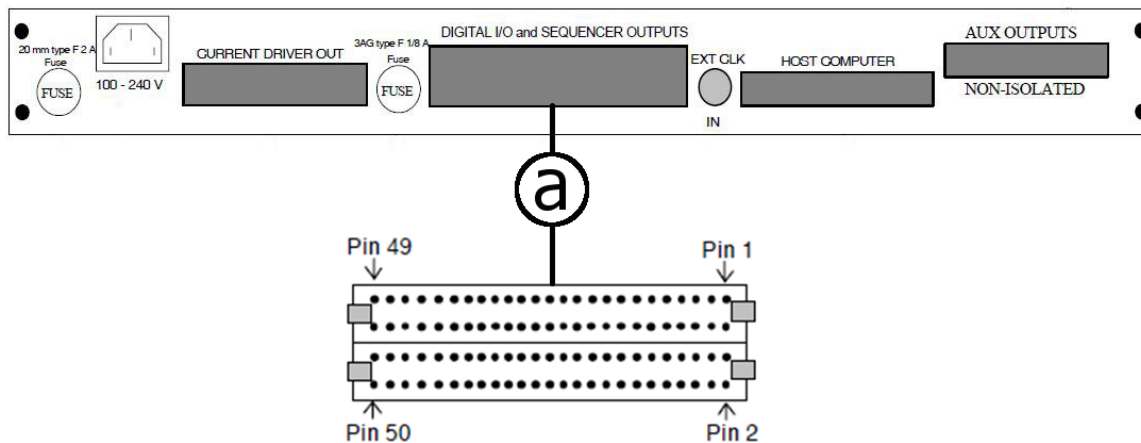

Fig. 18: Rear panel controls of the ITC-18 Data Acquisition Interface.
- Input: Digital I/O of the ITC-18 (see Fig. 18)